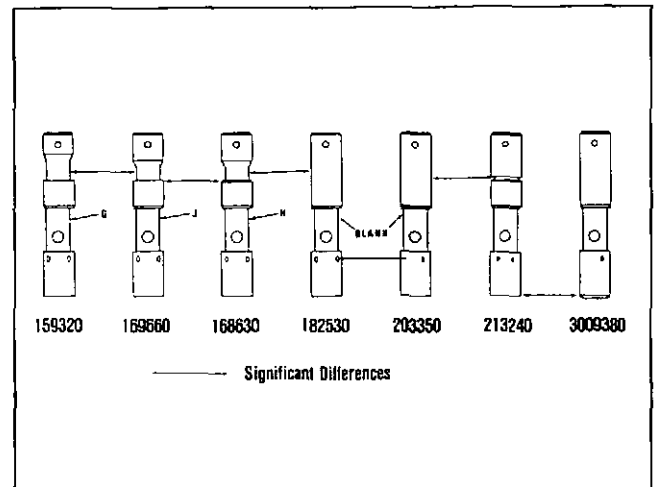

Fig. 2-6, (F5253). PT (type G) governor plungers.
5. Select a new Class 2 (green color code) plunger and try to fit it in the barrel. If the plunger enters, try a Class 3 (yellow). Keep trying larger sizes until one will not enter the barrel. Then select a plunger two sizes smaller than the last plunger which did enter. Put some test oil on the plunger. The plunger must slowly drop into the bore without any help. Mark the governor barrel with the class size of the plunger that is in use. See Table 2-1 for the class sizes and the color codes. For the plunger differences see Fig. 2-6.